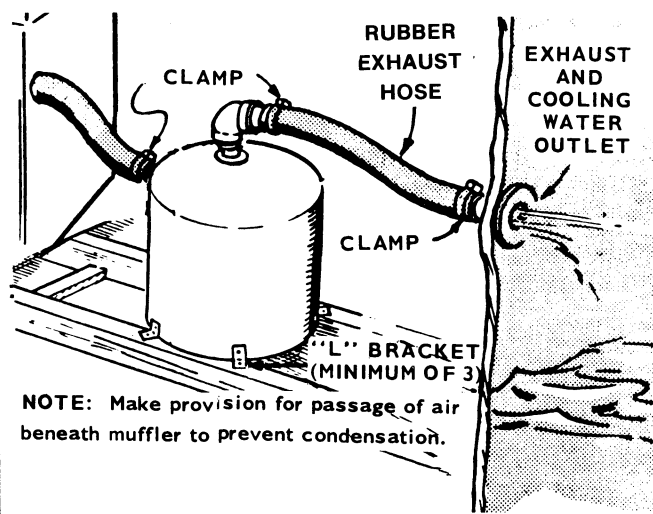

FIGURE 4. ABOVE WATER LINE INSTALLATION
3. Connect the exhaust line to the muffler outlet and to the upper elbow. A conventional automobile tail-pipe hanger bracket may be used to hang the upper elbow. Rigid pipe may be used in place of flexible hose for certain applications. See Figure 4 and 5. There must be a pitch of one-half inch per foot (i.e., a 2-1/2" drop for a 5' run) in the exhaust tubing between the engine exhaust elbow and the muffler inlet. Muffler may be mounted below the level of the engine if necessary. A minimum drop of one-foot is necessary between the engine exhaust outlet on the hull to prevent water from washing into the system (see Figure 3). An increase of one standard pipe size for every ten running feet of exhaust from the muffler to the exhaust outlet is necessary to prevent excessive back pressure.